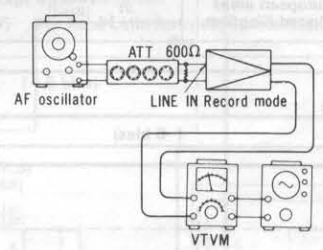

Fig. 19
- Test equipment connection is shown in fig. 19.